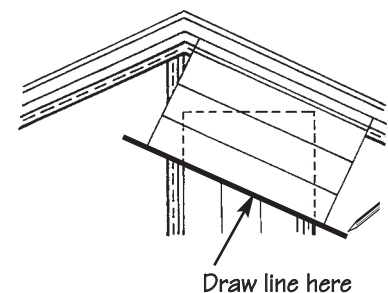

Figure 63.
- Make a pattern for end cuts along the gable using two pieces of scrap siding (Fig. 63). Lock one piece into the vertical strip at the center of the wall. Hold the edge of the other piece against and in line with the roof line. Mark the slope on the vertical piece and cut along that line. Use it as a pattern to mark and cut the ends of all other panels required for this side of the gable end. Make another pattern for the other side of the gable.